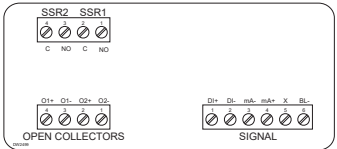
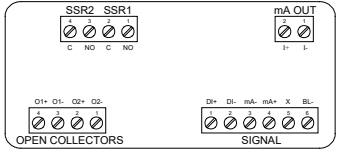

Figure 6. Connector Labeling for IDE20-#D(B)-1 with 2-Solid State Relays
Figure 8. Connector Labeling for IDE20-#D(B)-3 with 2 Solid State Relays & 4-20 mA Output
Relay connections are made to a four-terminal connector labeled SSR1 and SSR2 on Figure 6 and Figure 8. Each relay's C terminal is common only to the normally open (NO) contact of the corresponding relay.